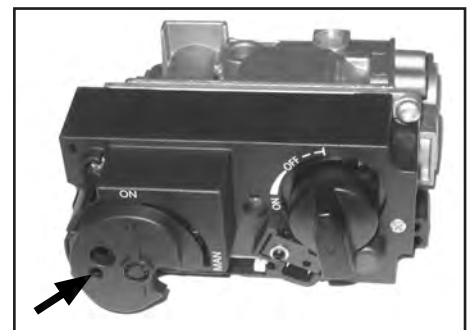

Figure 54: Screw for Adjusting Pilot Flame.
2. If a fan is installed; unhook the three (3) connectors to the fan motor, lift the fan up and off the grommets, and slide the fan forward then up and out of the unit.
3. The adjustment screw can be reached through the $\frac{1}{8}$ " (3mm) hole in the MAN-knob pointed out in Figure 54. The MAN-knob must be in the ON position.